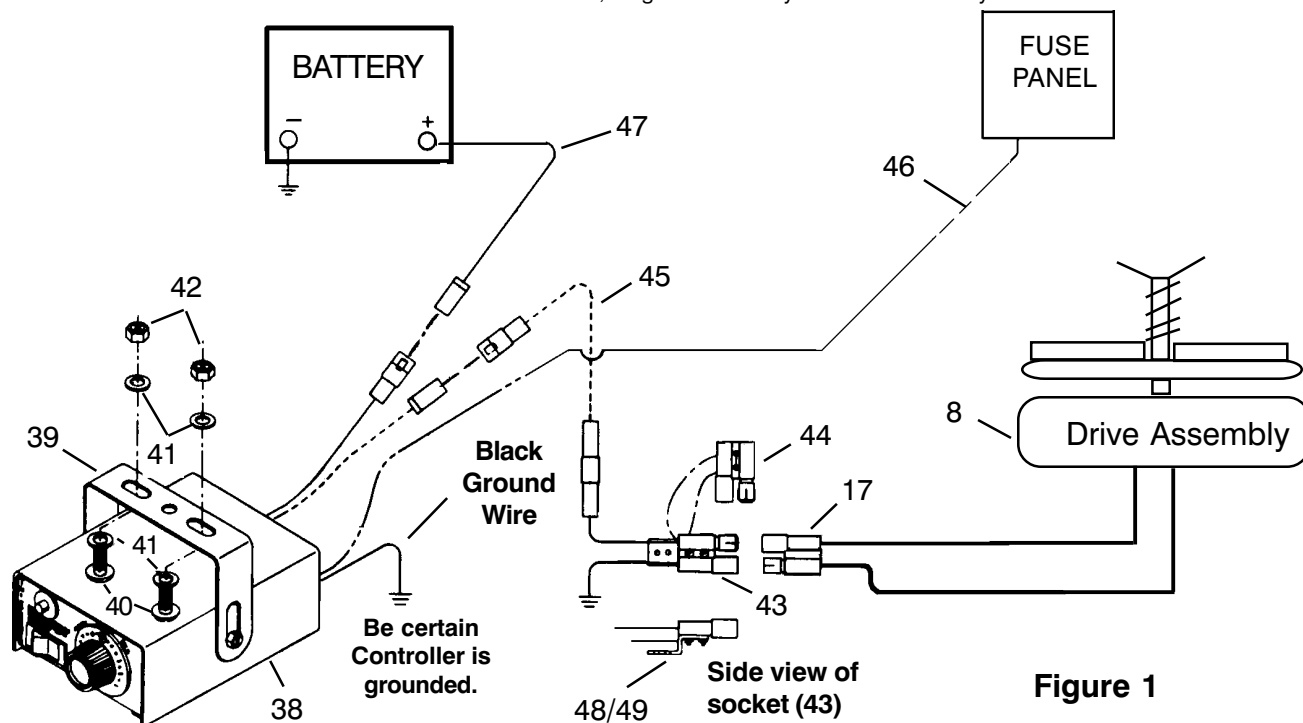

Figure 1
C. ELECTRICAL INSTALLATION Refer to Figure 1.
1. Choose a location for the speed control (38) that is convenient for the driver, noting whether mounting bracket will be attached to the top or bottom of speed control (38). Attach mounting bracket (39) to vehicle using Round Head Machine Screws (40), flatwashers (41), and hexnut (42). Make certain speed control (38) is grounded by attaching ground wire to a good vehicle ground.
2. Route the blue wire (46) from the speed control location to the vehicle fuse panel and attach to a switched terminal on the panel. This terminal must only be "hot" when the ignition switch is "on." **DO NOT** attach blue wire to speed control at this time.
3. Attach the eyelet end of the 96" red wire (47) to the positive terminal of the battery and route the plug end to the location of the speed control. **DO NOT attach to** speed control at this time.
4. Take the 222" red wire (45) and route the large rubber plug end to the rear of the truck, securely tying to vehicle frame. Be certain wire is clear of any sharp or moving objects or the vehicle's exhaust system.
5. Attach the socket (43) to vehicle bumper or other solid mounting point using #8-32 x 1" screws (48) and #8-32 locknuts (49). Be certain the motor leads will not be strained when the plug (16) is attached. Plug the 222" red wire (45) into the socket. Secure black wire from socket to a good grounding point on vehicle frame. Clean all rust or undercoating from this area.
6. **Note: When spreader is removed, protect the socket (43) using dummy plug (44).**